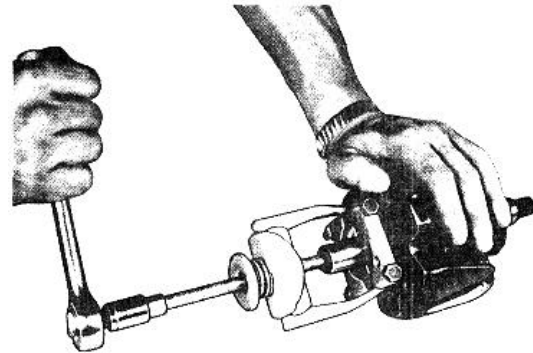

FIG. 22
- Using a suitable puller, the inner bearing race may now be removed from the rotor shaft. (See Figure 22.)